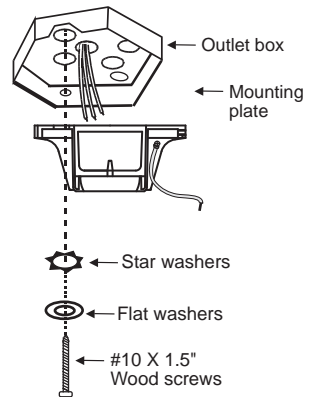

Fig. 7
2. Use the two #10 X 1.5" wood screws and washers to secure the hanger bracket directly to the building joist via the knockout holes from the outlet box. (Fig. 7)